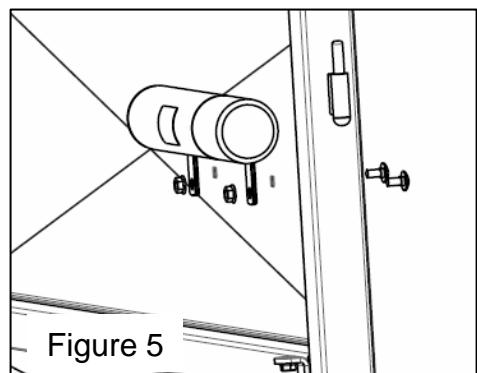

Figure 5
10. Install owners manual taken from OEM ROPS and mount behind drivers seat in cab. Figure 5